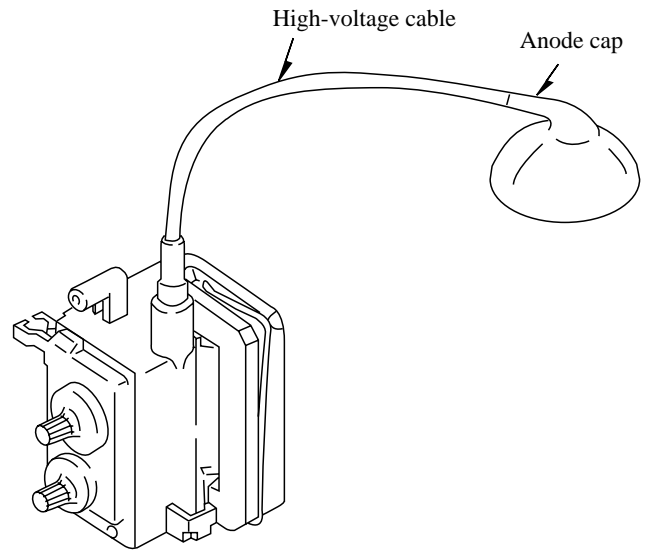

Fig. 3-3
- (3) Eliminate twisting, etc. of the high-voltage cable and arrange it so that no twisting occurs. (See Fig. 3-3)